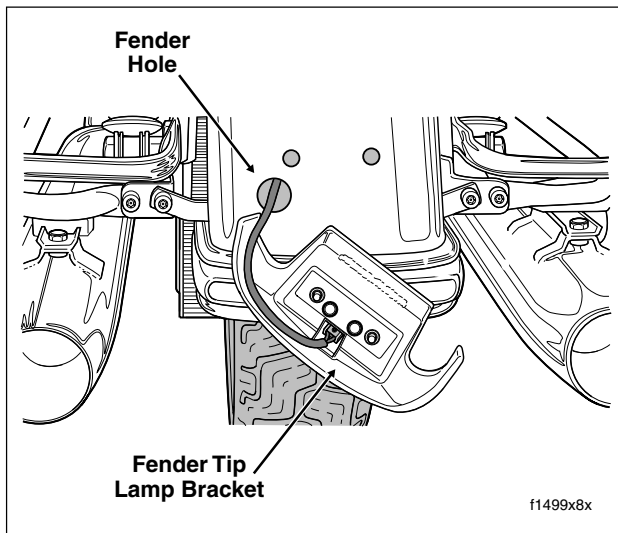

Figure 8-50. Feed Fender Tip Lamp Socket and Conduit Through Fender Hole
8. Draw conduit and 3-place Multilock socket out through bottom fender hole. See Figure 8-50.
4. Feed 3-place Multilock socket and conduit through bottom fender hole. See Figure 8-50.